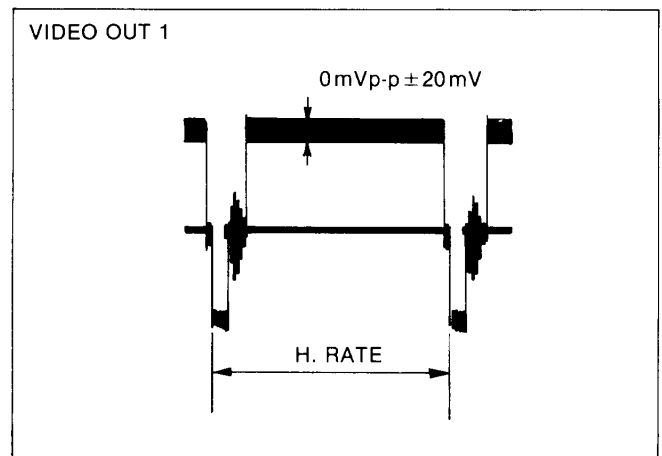

Figure E44
4. Adjust VR3502 so that the flicker of luminance is minimized as possible as shown in Figure E44.